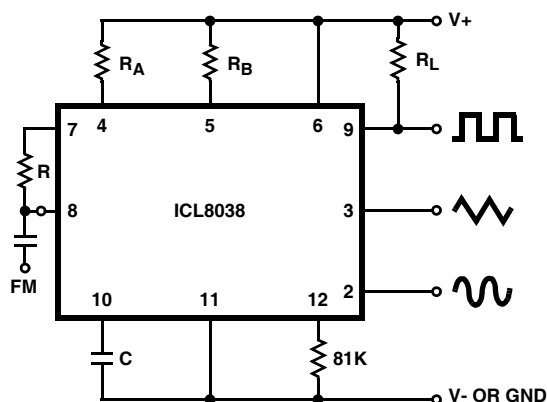

FIGURE 5A. CONNECTIONS FOR FREQUENCY MODULATION
3.  $V_{SUPPLY} = 20V$ ;  $R_A$  and  $R_B = 10k\Omega$ ,  $f \cong 10kHz$  nominal; can be extended 1000 to 1. See Figures 5A and 5B.
The frequency of the waveform generator is a direct function of the DC voltage at Terminal 8 (measured from V+). By altering this voltage, frequency modulation is performed. For small deviations (e.g.  $\pm 10\%$ ) the modulating signal can be applied directly to pin 8, merely providing DC decoupling with a capacitor as shown in Figure 5A. An external resistor between pins 7 and 8 is not necessary, but it can be used to increase input impedance from about 8kΩ (pins 7 and 8 connected together), to about  $(R + 8\text{k}\Omega)$ .